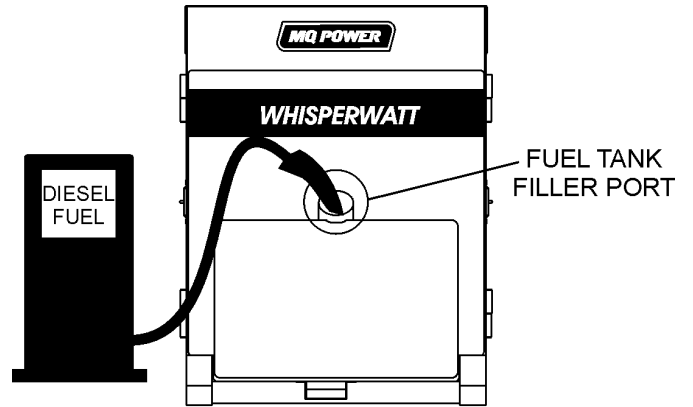

Figure 30. Fueling the Generator
4. Open cabinet doors on the “right side” of the generator (from generator control panel position). Remove fuel cap and fill tank (Figure 30).